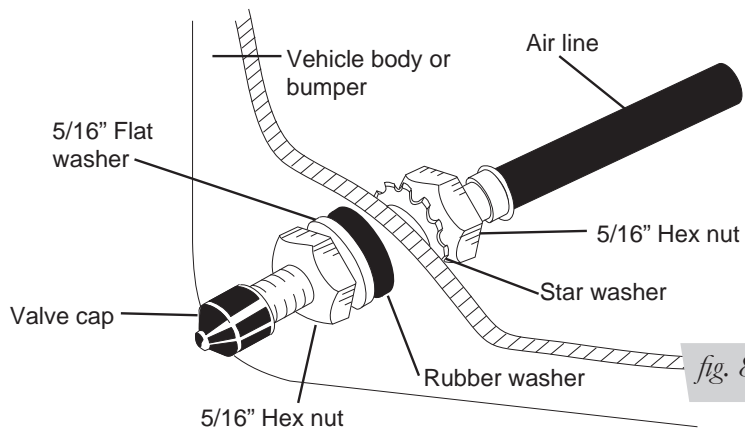

fig. 8
4. Place a 5/16" nut and star washer on the air valve. Leave enough of the inflation valve in front of the nut to extend through the hole and have room for the rubber washer, flat washer, and 5/16" nut and cap. There should be enough valve exposed after installation—approximately 1/2"—to easily apply a pressure gauge or an air chuck (fig. 8).